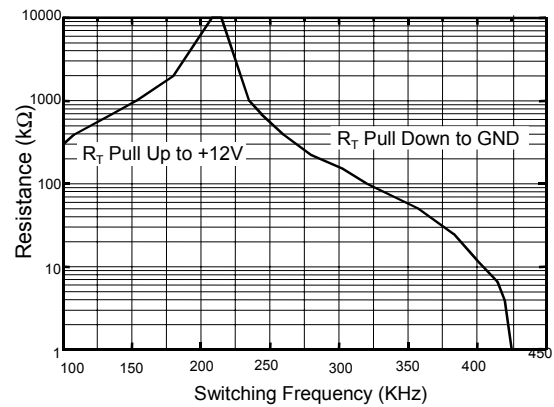

FIG. 3 R_T Resistance VS. Frequency
Pin 10: RT: Frequency adjustment pin. Connecting a resistor (RT) from this pin to GND, increasing the frequency. Connecting a resistor (RT) from this pin to VCC, decreasing the frequency by the following figure (Fig.3).